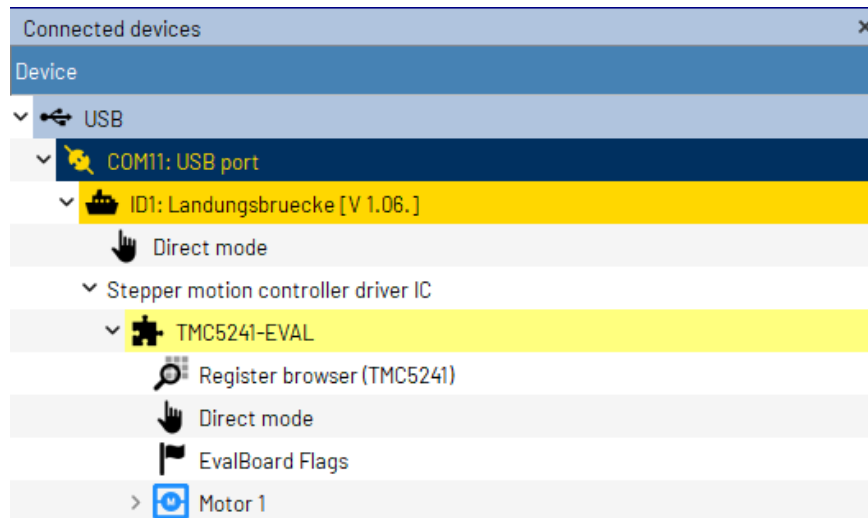
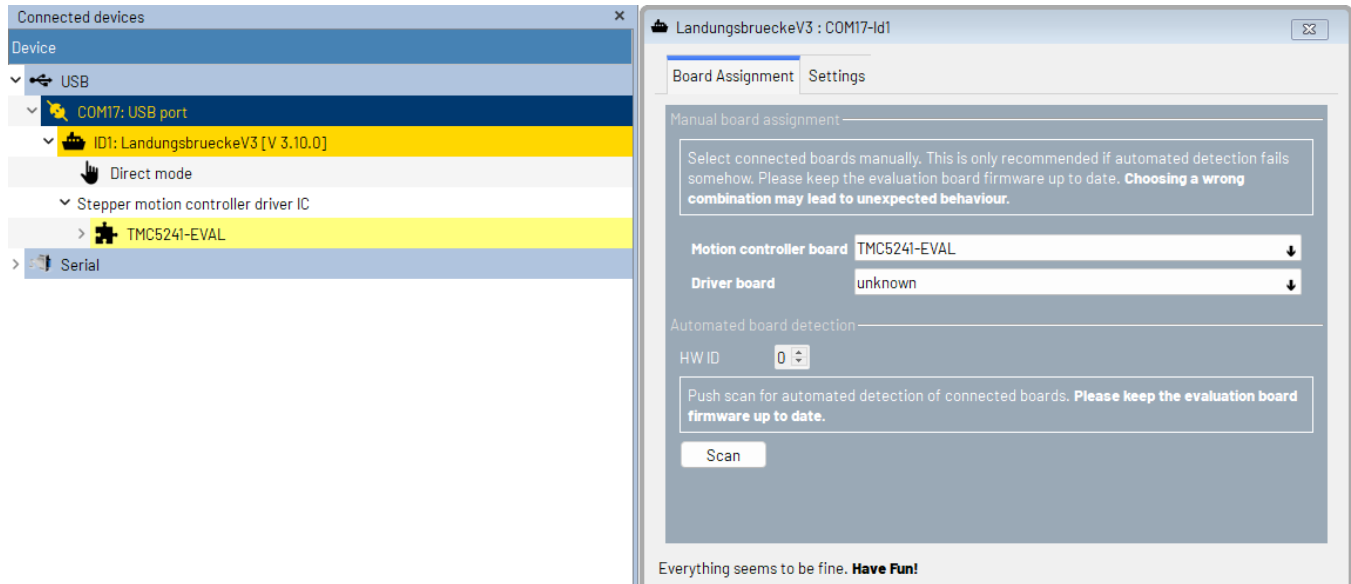

Figure 2. TMCL-IDE Device Tree
Figure 3. TMCL-IDE, Manual Selection of a Board
1. Make sure the latest version of the TMCL-IDE is installed on the computer; download the latest version from TMCL-IDE. Open the IDE; the board is automatically detected and appears in the **Device** tree, as shown in Figure 2. If the board is not automatically detected, manually select it by following the steps shown in Figure 3.